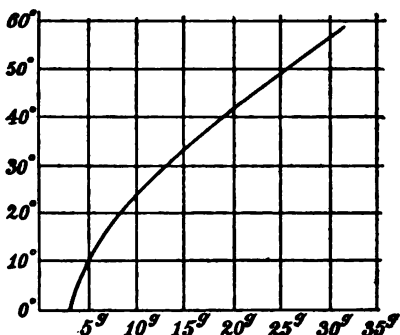

FIG. 16.
**13. To plot the Solubility Curve.** — Draw on the opposite page, near the left edge, a vertical line 4 inches long, and a horizontal one from its lower end the same length. See Fig. 16, which illustrates the method with an imaginary compound. Divide each of these lines into ten equal parts, and draw horizontal and perpendicular lines. Let the vertical spaces represent the temperature, and the horizontal the grams of salt dissolved. Next, put a small dot upon each horizontal line at a point which would